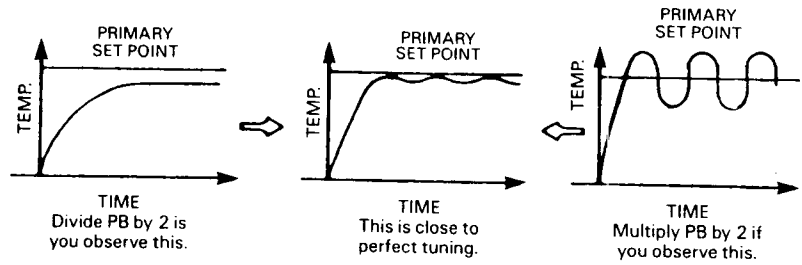

Figure 4-4. Temperature Oscillations
4. If there are no regular oscillations in the temperature, divide the PB by 2 (see Figure 4-4). Allow the process to stabilize and check for temperature oscillations. If there are still no oscillations, divide the PB by 2 again. Repeat until cycles or oscillations are obtained. Proceed to Step 5.